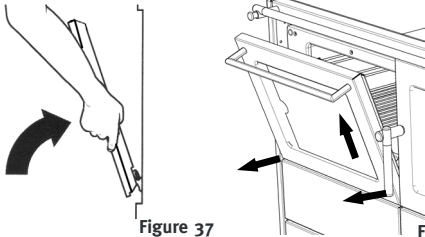

Figure 37
- Hold the oven door at the sides using both hands. Lift the door slightly and pull the hinges forwards from the door openings (Figures 37+38).